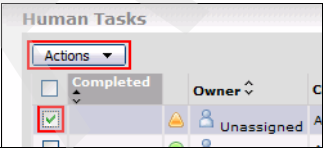

Figure A-106 Selecting an unassigned human task
2. Click the **Actions** button and select **Claim** (Figure A-106).